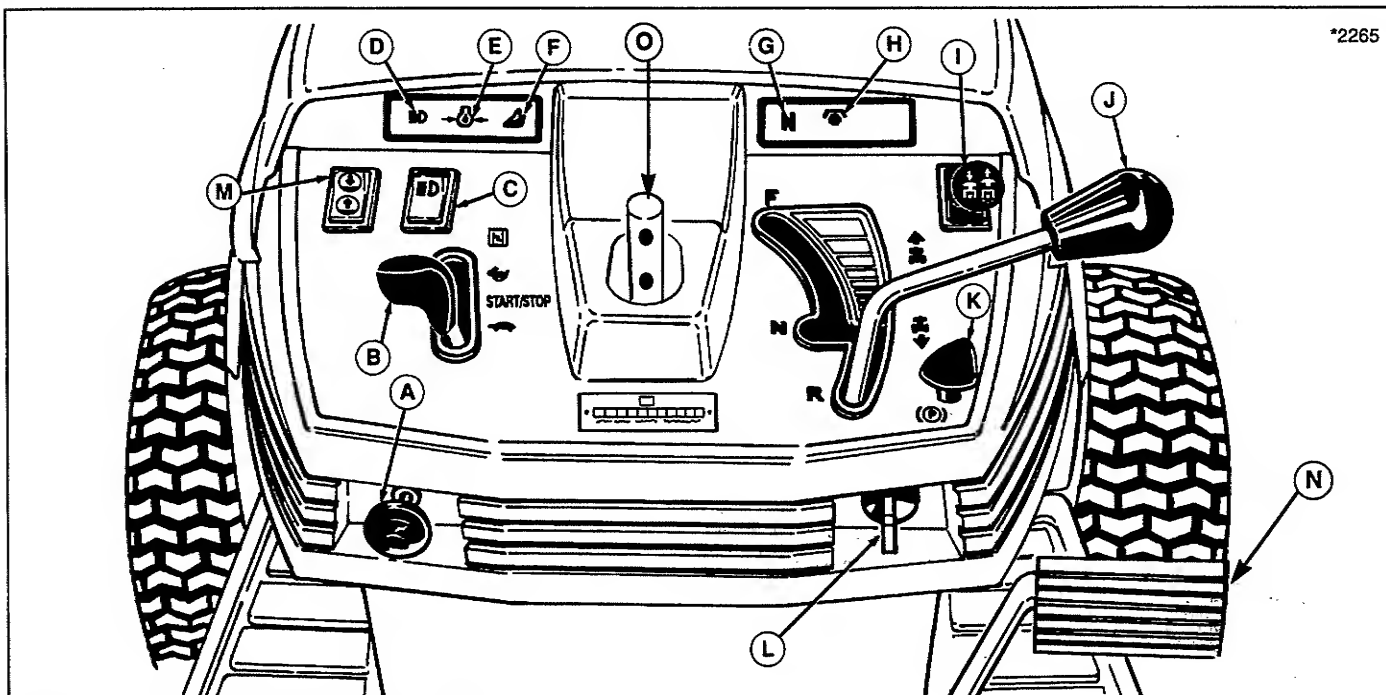
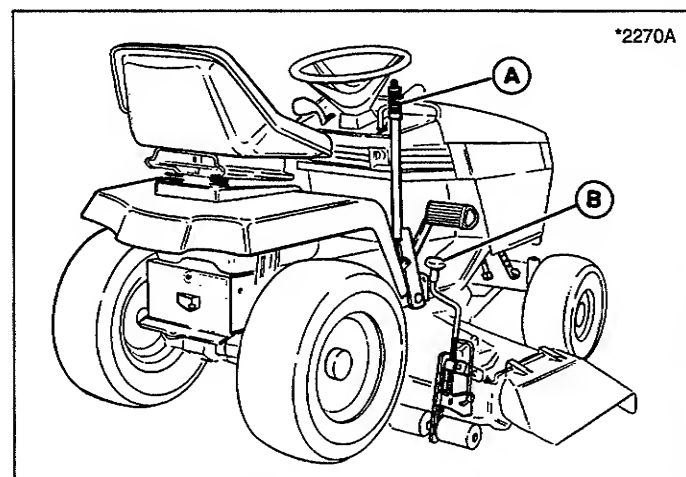

Figure 2. Tractor Controls (Hydro Model Shown)
Figure 10. Mower Operation - Manual Lift
- A. Neutral Indicator Light (G, figure 2) should go on with transmission lever in neutral gate and should go out when lever is moved to either the forward or reverse gate.
- B. PTO Indicator Light (H, figure 2) should go on and off with operation of PTO switch.
- C. Oil Pressure Indicator Light (E, figure 2) should be on and should go out immediately after engine starts.
- D. Operator Seated Indicator Light (F, figure 2) should go on when operator is present in the seat and should go off as operator rises out of the seat.
2. Place mower in the lowest cutting position using the mower height adjuster (B, figure 10). Place the mower lift lever (M, figure 2 or A, figure 10)) in the lowest position, also. Slide mower deck under right side of tractor so that mower hitch is aligned with front tractor hitch.
2. Place mower in the lowest cutting position using the mower height adjuster (B, figure 10).
3. Place the mower lift lever (A, figure 10 or M, figure 13) in the lowest position.
1. When traveling to or from the work site, fully raise the mower using the mower lift lever (A, figure 10 or M, figure 13). At the work site, lower mower using the lift lever.
2. Use the mower height adjuster (B, figure 10) to set the proper mowing height. See Mowing Patterns & Tips section for cutting height recommendations.
2. Place the mower in the transport position (up) using the mower lift lever (A, figure 10 or M, figure 13).